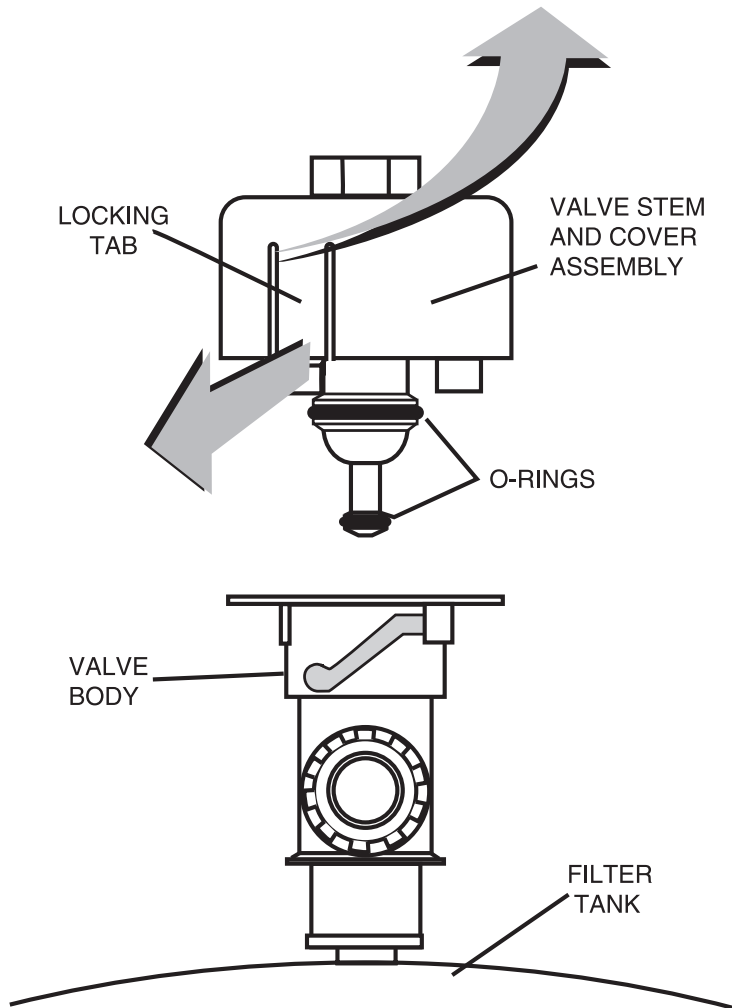

Figure 12.
3. With the relief valve attached to the filter tank, pull out the locking tabs and remove the valve stem and cover assembly with a counterclockwise and lifting motion, see Figure 12.